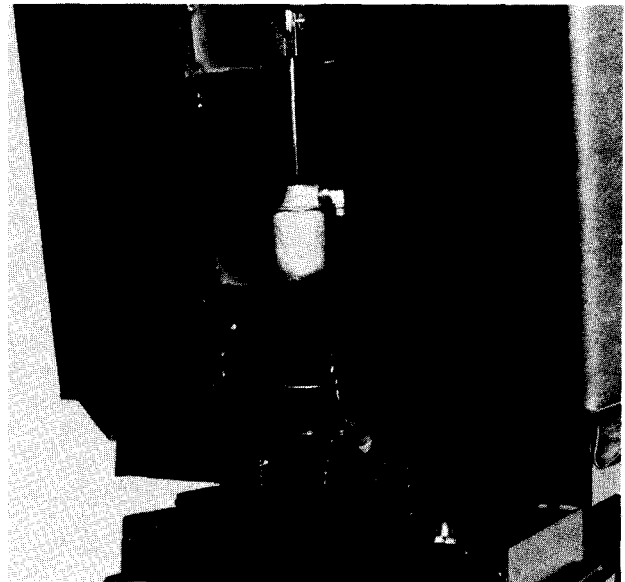

Fig. 15
- 1) When changing a cylinder, notice how the wires, hose fittings and nylon ties are positioned so they may be replaced exactly the same way or damage to the wires and hoses may result in electrical shock or hose leakage. See Figs. 15 & 16.
NOTE: It is important that all ties and clamps are replaced in exactly the same spot on the hoses, particularly the tie that attaches the spring or damage to the wires and hoses may result in electrical shock or hose leakage. See Figs. 15 & 16.